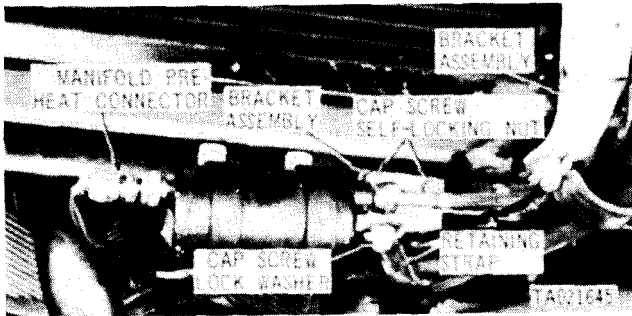

Figure 2-143. Removing or installing wiring harness and generator cable bracket assembly.
(1) Remove two capscrews and lockwashers (fig. 2-143) and remove two retaining straps. Remove two capscrews and lock nuts and remove bracket assembly. Remove manifold preheat cable connector.
(c) Install bracket assembly (fig. 2-143) and secure to oil cooler frame with two cap screws and self-locking nuts. Install two retaining straps and secure one to each bracket assembly with two cap screws and lockwashers. Install manifold preheat cable connector.